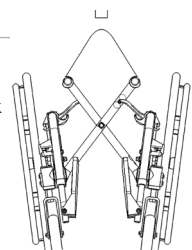

Fig. 2
- Lift the handle on the seat upholstery (Fig. 2).